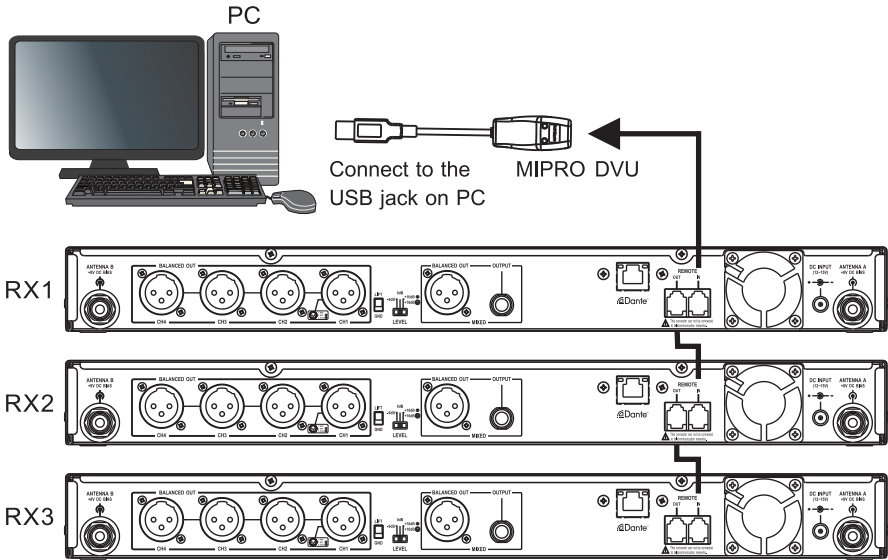

Fig. 21
2. MIPRO DV Wiring Instructions. Fig. 21:
- (A) Use supplied hardware cable for serial connection to MIPRO receivers and PC network interface connector **18**.
- (B) Next, use a USB connector to link the receivers' input interface connector via MIPRO DVU to a computer USB PORT.
- (C) Up to 64 receiver channels can be connected, remotely controlled and monitored.
- (D) The network cable length can be connected up to 300 meters, but the longer it is, the transmission quality will be more unstable. The ideal cable length for optimal transmission quality is less than 100 meters.